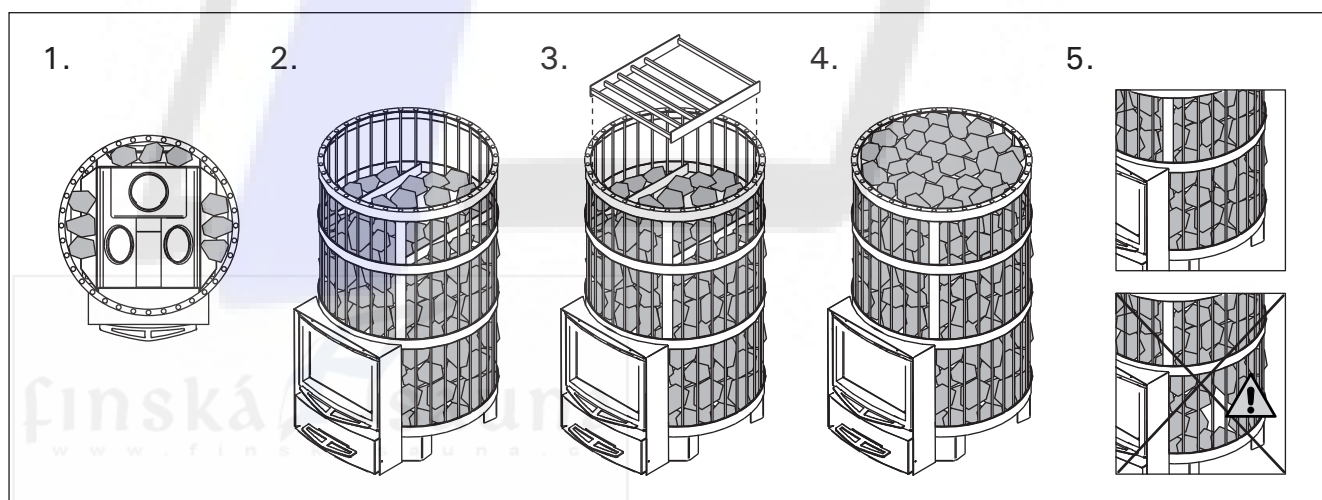

Figure 3.
**Piling of the sauna stones (figure 3):**